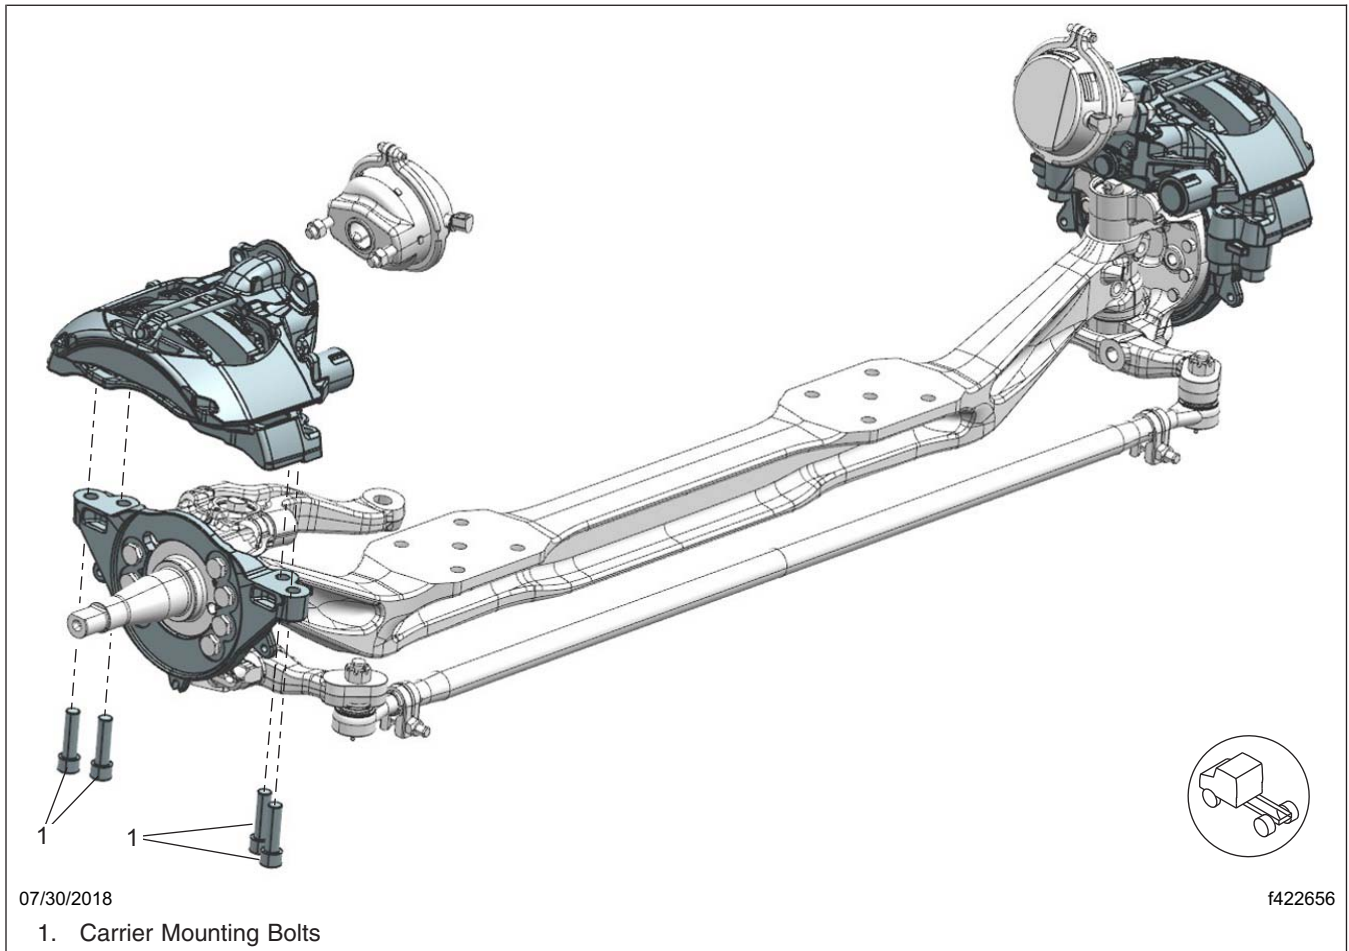
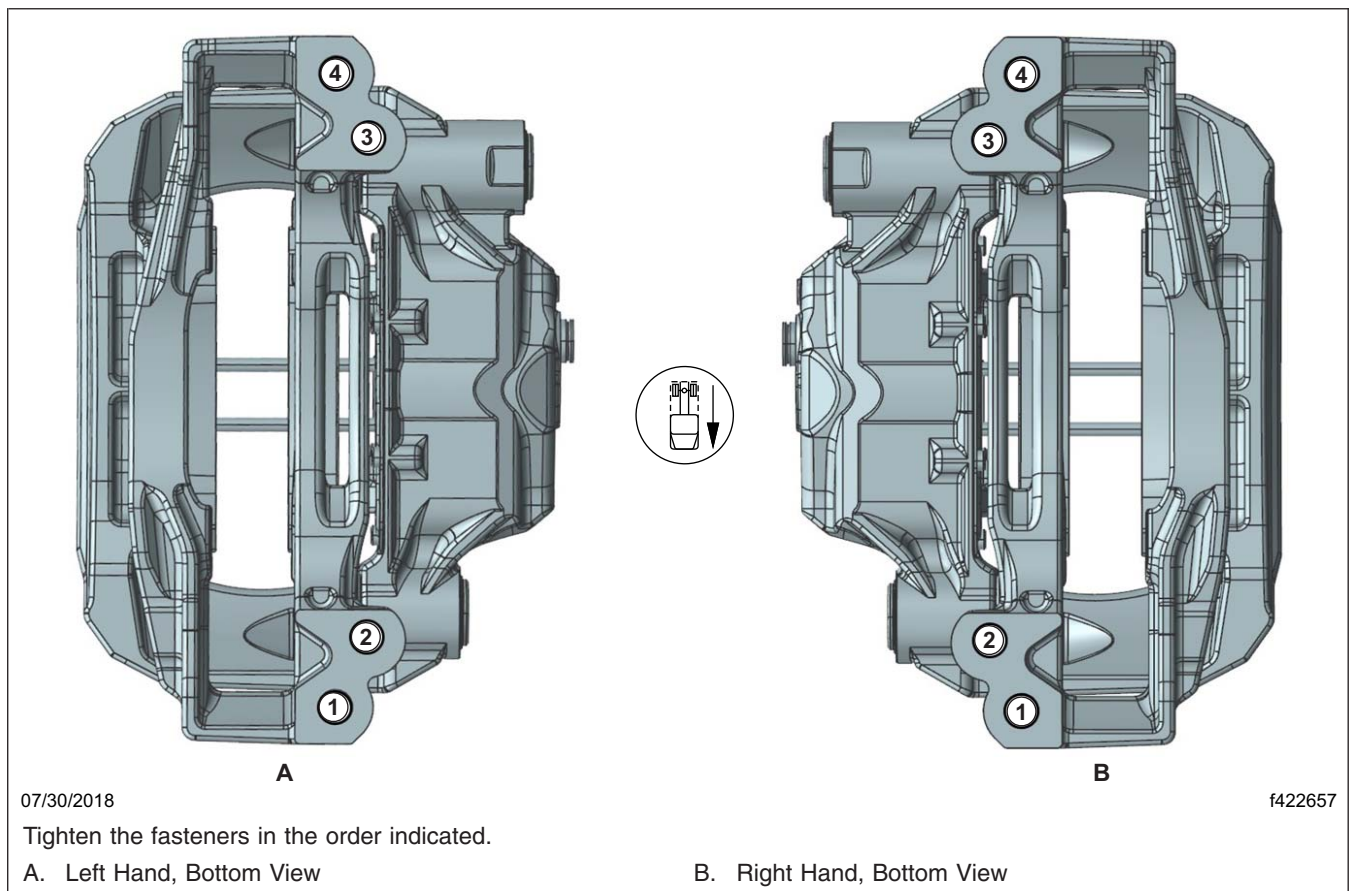

Fig. 7, Wabco Maxxus Radial Mounted Calipers
Fig. 8, Wabco Maxxus Radial Mounted Caliper Tightening Pattern
5. Align each caliper/carrier assembly with the rotor by pushing the fixed pin side of the caliper against the shelf on the torque plate, then install the caliper/carrier assembly using new caliper mounting bolts. See Fig. 7 and Fig. 8.
6. Tighten the carrier mounting bolts in two steps, using the pattern shown in **Fig. 8**.